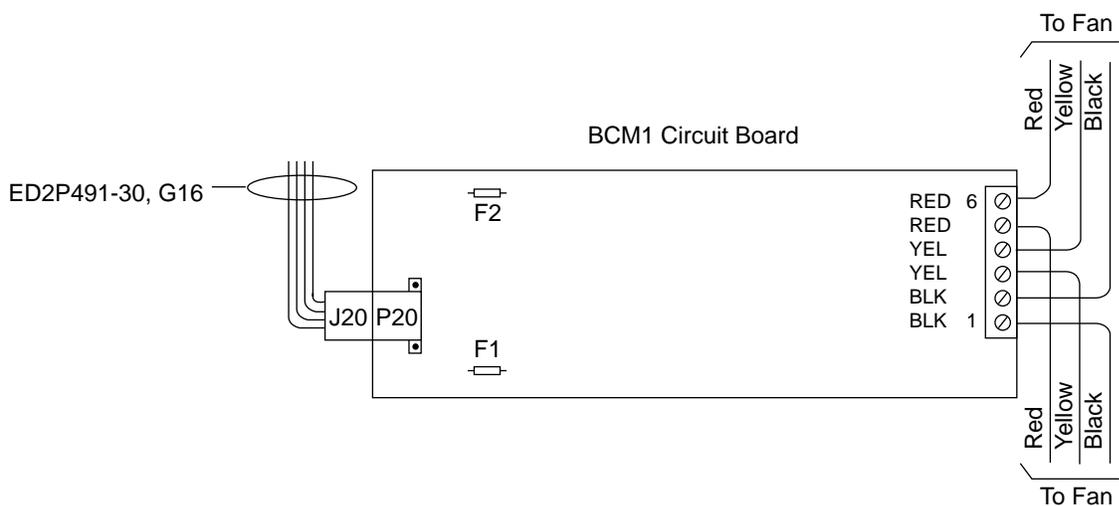

FIGURE 5-2. BCM1 Circuit Board
Remove fan tray and check power connection to the circuit board. Verify that connections to P20/J20 and TB26 are secure on the BCM1 circuit board. Refer to Figure 5-2.
9. Connect the red, black, and yellow wires using Figure 5-2 as a reference.
13. Connect these wires to the correct positions on TB26 (see Figure 5-2).